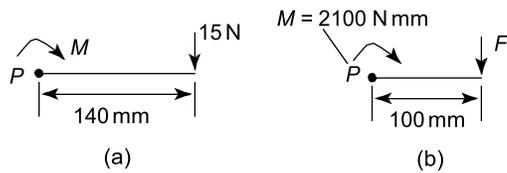

Figure 5.2
From above,  $M = F \times d$ , where  $M$  is the turning moment,  $F$  is the force applied at right angles to the spanner and  $d$  is the effective length between the force and the centre of the nut. Thus, with reference to Figure 5.2(a):
- (b) Turning moment,  $M$  is 2100 N mm and the effective length  $d$  becomes 100 mm (see Figure 5.2(b)). Applying  $M = F \times d$  gives: